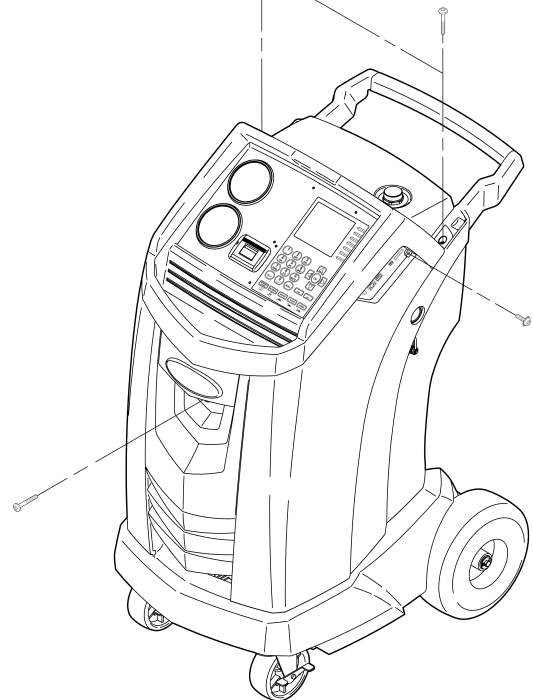

Figure 21
3. Remove the four screws shown in Figure 21, and remove the shroud.